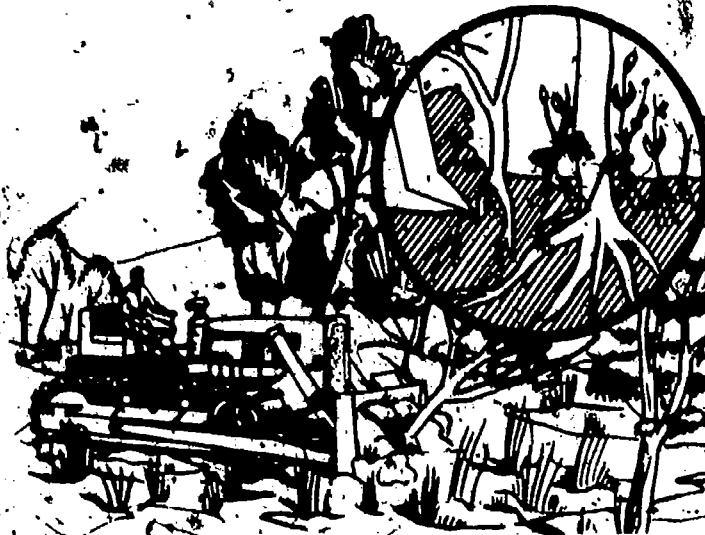

Fig. 4-24. Bulldozer removing brush and small trees.
(1) Brush and trees. To clear brush and small trees, travel forward in low speed with the blade lowered a few inches into the ground to cut the roots (fig 4-24). You can make one pass knocking over trees and brush, back up, and make another pass to clear them away. The land-clearing blade can also be used to cut the trees and brush at or above ground level.